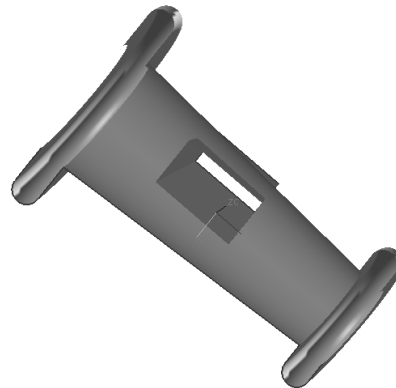

Figure 11-97 The surface model after trimming the base surface with respect to the extruded surface
4. Make sure the **Keep** radio button is selected in the **Region** rollout and then choose the **OK** button. The resulting surface model after trimming it, is shown in Figure 11-97.